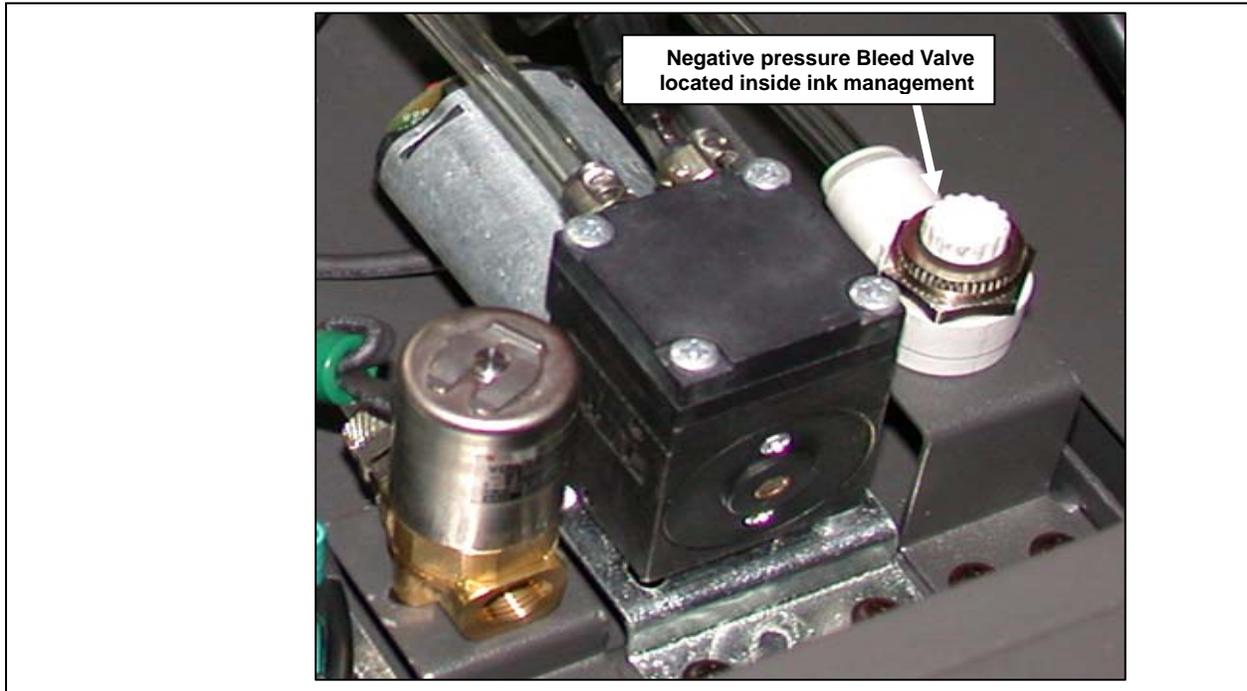

Figure 12 **Negative Pressure bleed Adjustment and Ink Purge Button**
The air pump is locate in the pump bay which can be accessed from the top right of the printer. The air pump shown in **Figure 12**, provides both negative pressure (vacuum) and positive pressure.
**Figure 12** calls out the negative pressure bleed valve for reference only. The valve was adjusted during installation and should not require additional adjustments by the customer. See also **Chapter 4: How to Operate the H652** for detailed instructions on purging ink from the print heads.